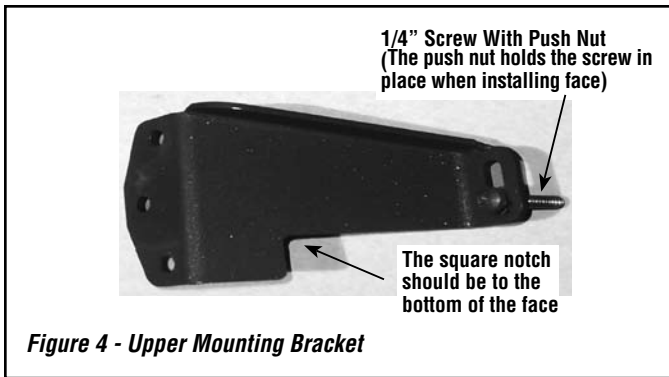
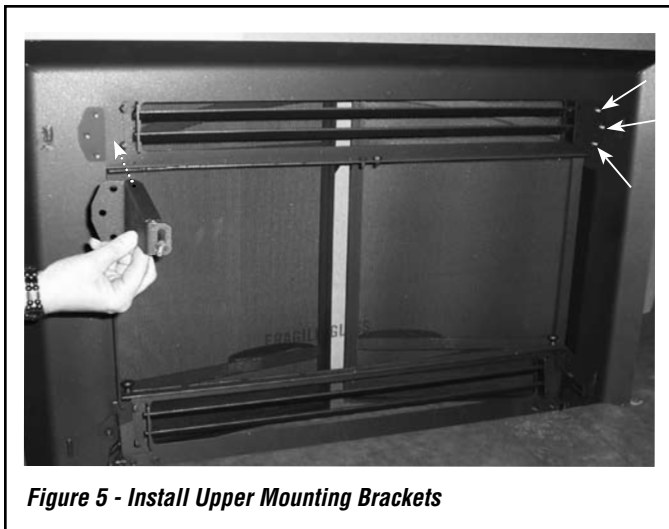

Figure 4 - Upper Mounting Bracket
Figure 5 - Install Upper Mounting Brackets
Step 2. Using a 3/8" socket or nut driver, attach the two upper mounting brackets to the six studs (three on each side - indicated by arrows in **Figure 5**) near the top, using the six #10 washers and 10-24 hex nuts provided. The square notch should be to the bottom of the face (see **Figure 4**).